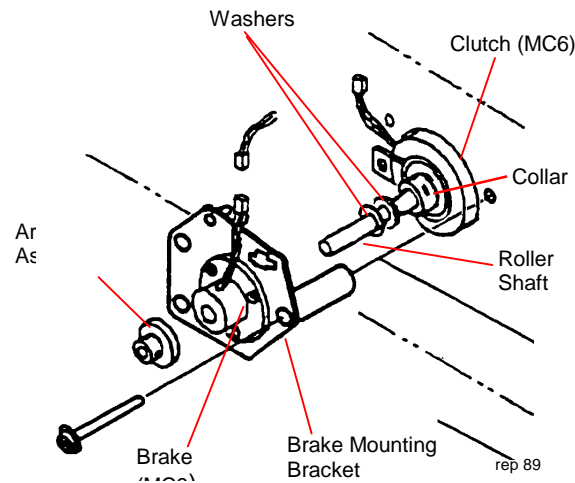

Figure 1. Removing the Brake
3. (Figure 1): Loosen the two screws and remove the collar.